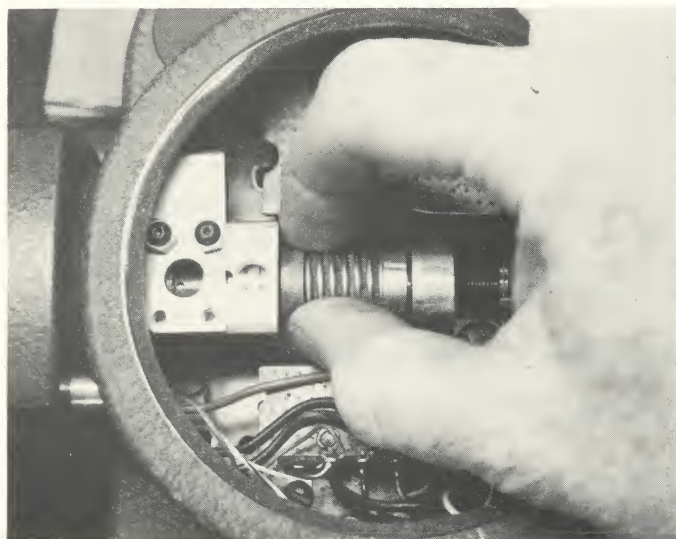
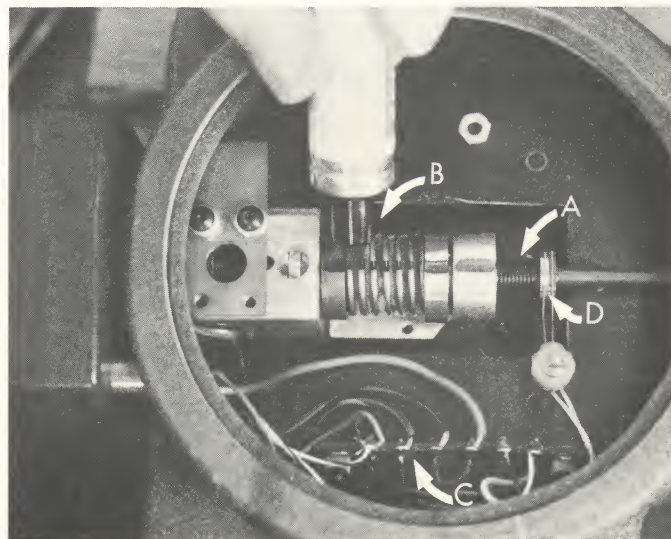

Figure 1
Figure 2
- 2) If there is no line on mechanism as in figure 2, release mechanism by putting Camera-Sync in "setup" and pushing "Single Frame" button. Then, with switch in "off," rotate input end of torque spring clockwise (looking from motor end) until mechanism stops, as shown in figure 1. Be careful not to put any "wind up" on torque spring by rotating output end beyond this point.
- 3) Draw a line across all the parts as shown in figure 2.